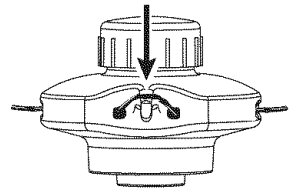

Fig. 15
5. Push the trimmer line behind the hook to secure it from coming loose while running (Fig. 15).